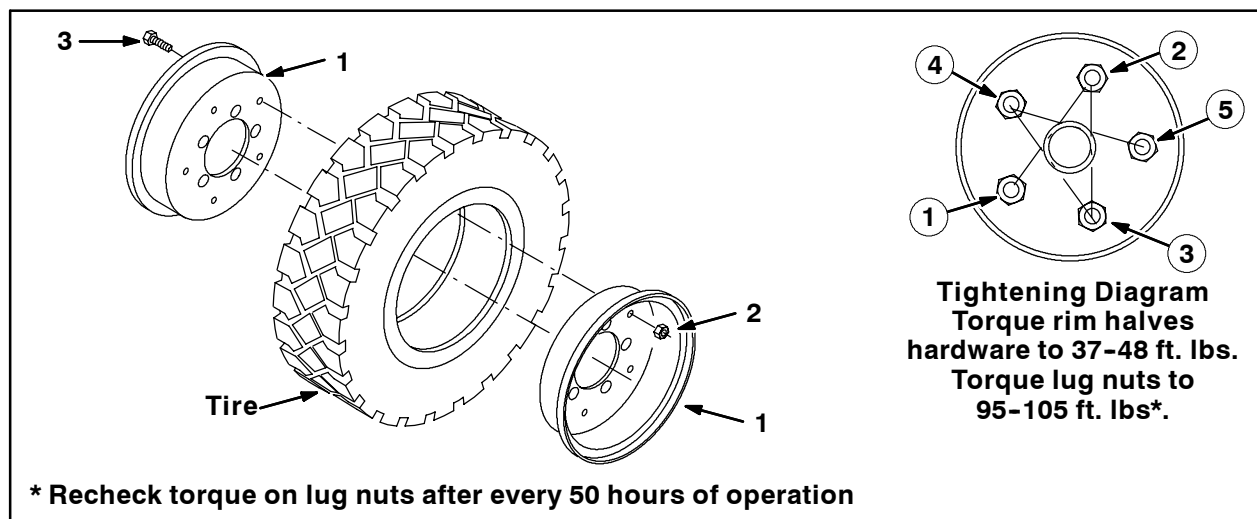

FIG. 2
3. Position the tire between the inner wheel shell and outer wheel shell of the wheel rim assembly (1), press the rim halves together, and use five hex nuts (2) and hex screws (3) to secure the inner wheel shell to the outer wheel shell. Torque to 37-48 ft. lbs. Tighten hardware twice as shown in the Tightening Diagram. Refer to Fig. 2.
4. Use the lug nuts to reinstall the rear tire onto the machine. Tighten lug nuts as shown in the Tightening Diagram in Fig. 2. Torque lug nuts to 95-105 ft. lbs. Recheck torque on lug nuts after every 50 hours of operation.